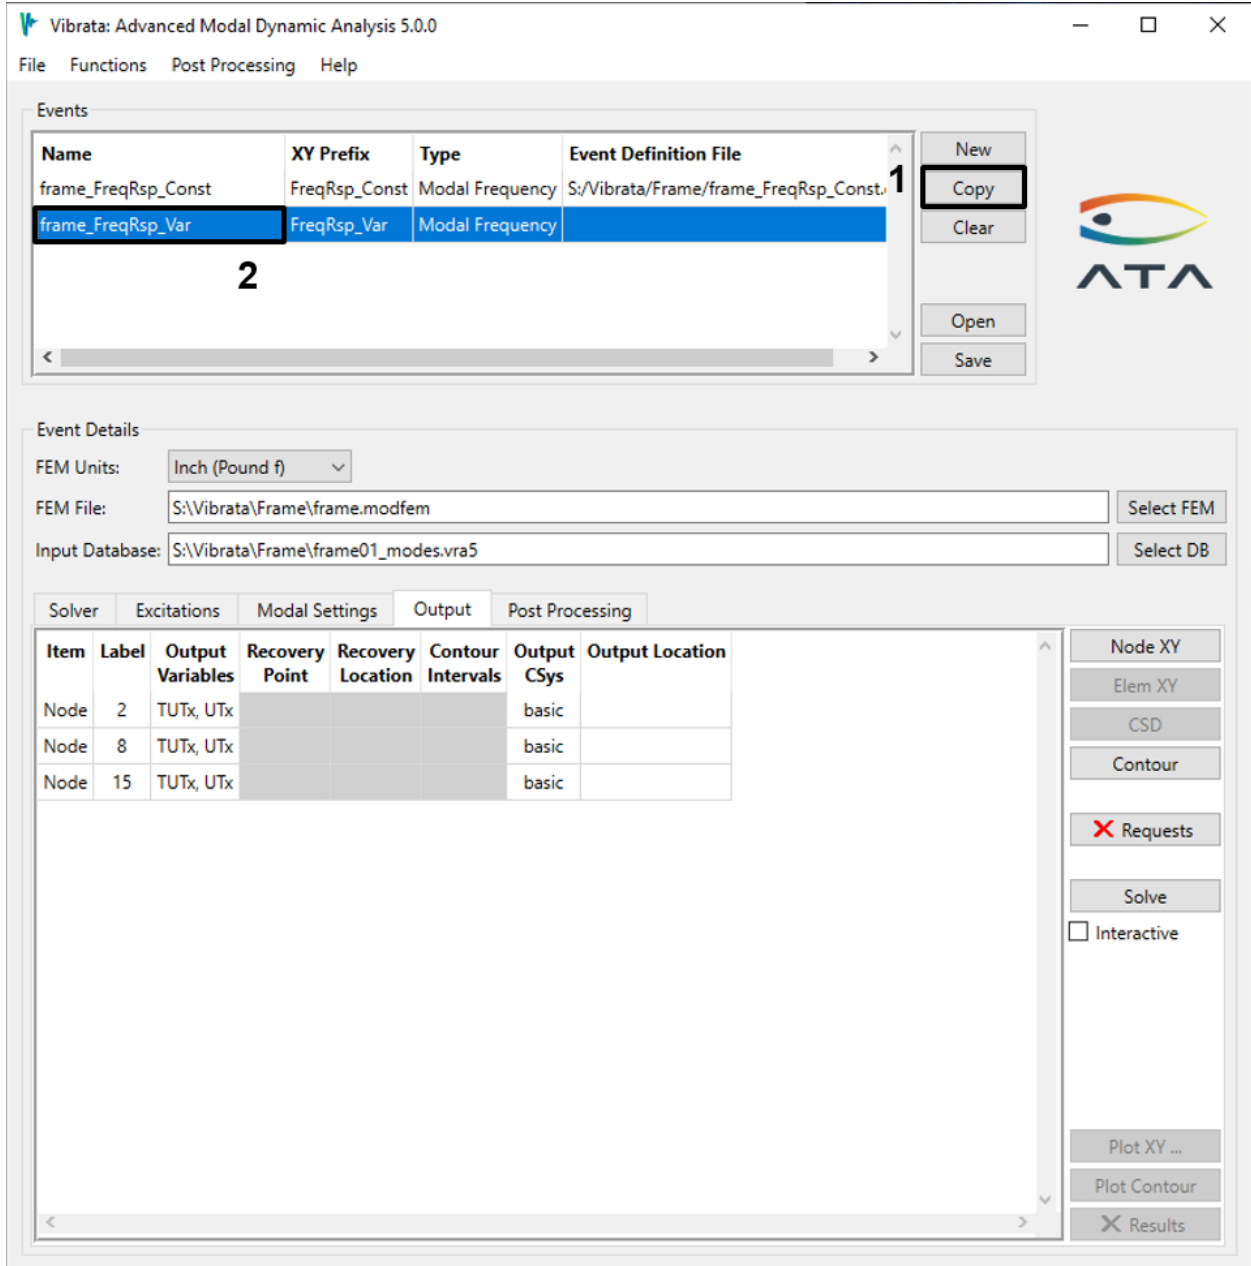

Figure 4-34. Use the **Copy** button to create a new event from an existing one.
- b. Rename the new event to “frame\_FreqRsp\_Var” and set the XY Prefix accordingly. Note that its output requests are again in black text; these have not yet been solved (Figure 4-34).